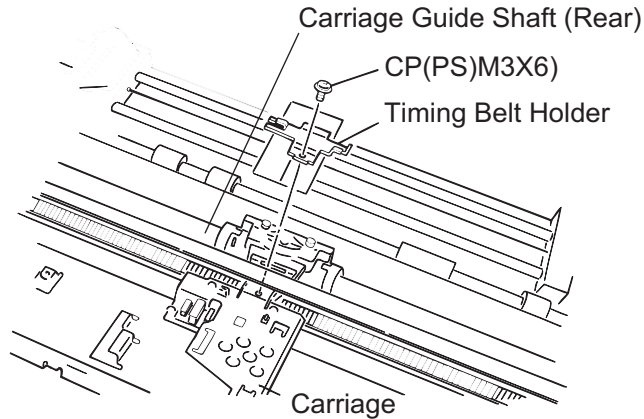

Figure 4-9. Carriage Plate Removal
Step 13: If the distance measured at the left side is greater than that measured at the right side, move the parallelism adjust lever in the direction shown by the white arrow in Figure 4-9. If the distance measured at the left side is less than that measured at the right side, move the lever in the direction shown by the black arrow.